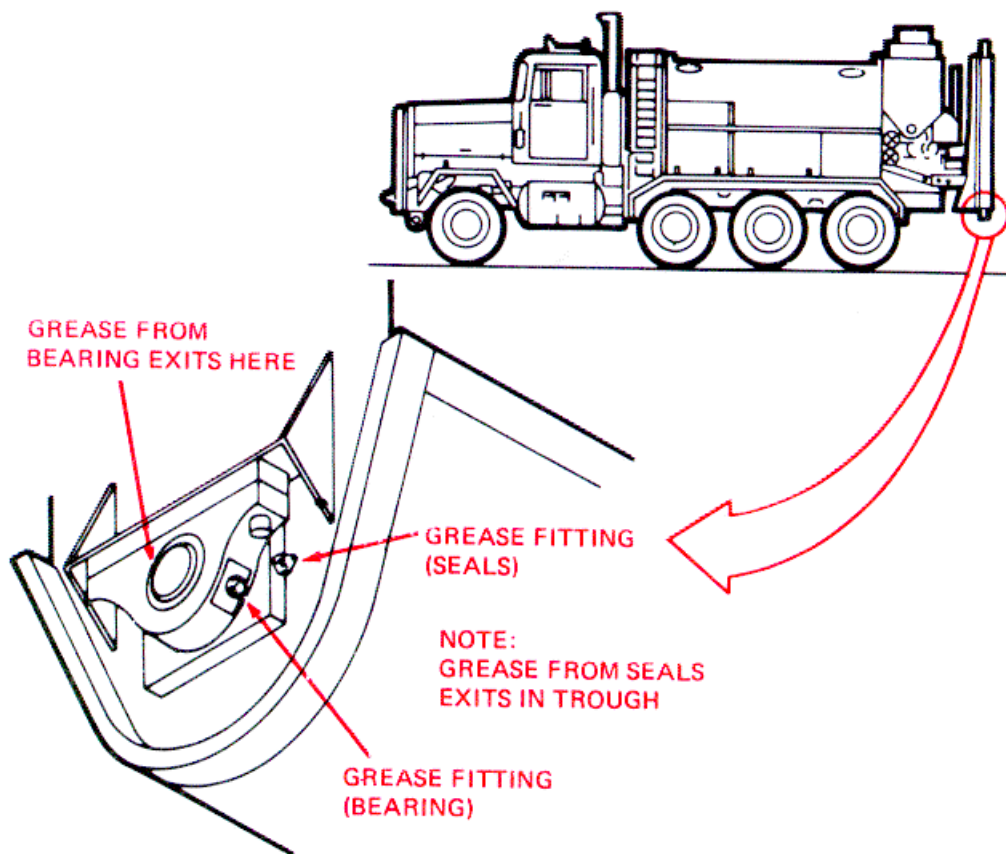

Figure 3-1. Auger Bearing.
a. Auger Bearing (See fig. 3-1.) Flush and lubricate this bearing every four hours during operation, and also after every cleanup. Lubricate it while the auger is turning. There are two fittings, one on the bearing and one over the seals. Use waterproof lithium grease on this bearing and seals. Place the grease gun on each fitting and pump in enough grease to displace all the previous grease. Wipe off the excess. This bearing cannot be greased too often or too much.